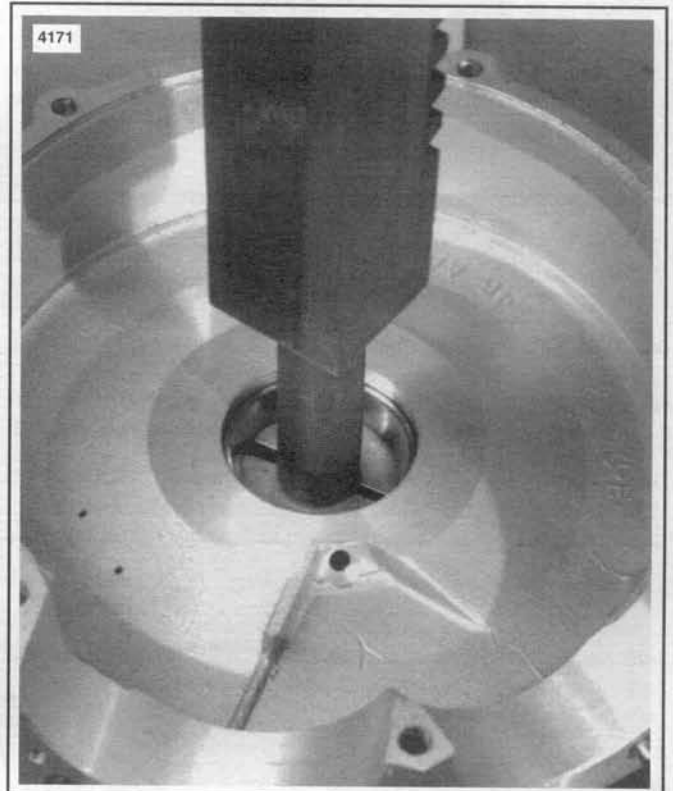

Figure 3-67. Removing Left Crankcase Bearing Races
7. See Figure 3-67. If left main bearing is to be replaced, press out bearing races (11 and 13, Figure 3-65) from opposite sides of crankcase hole, using CRANKSHAFT BEARING REMOVAL & INSTALLATION TOOL, Part No. HD-94547-80. Do not remove the lock ring (12).